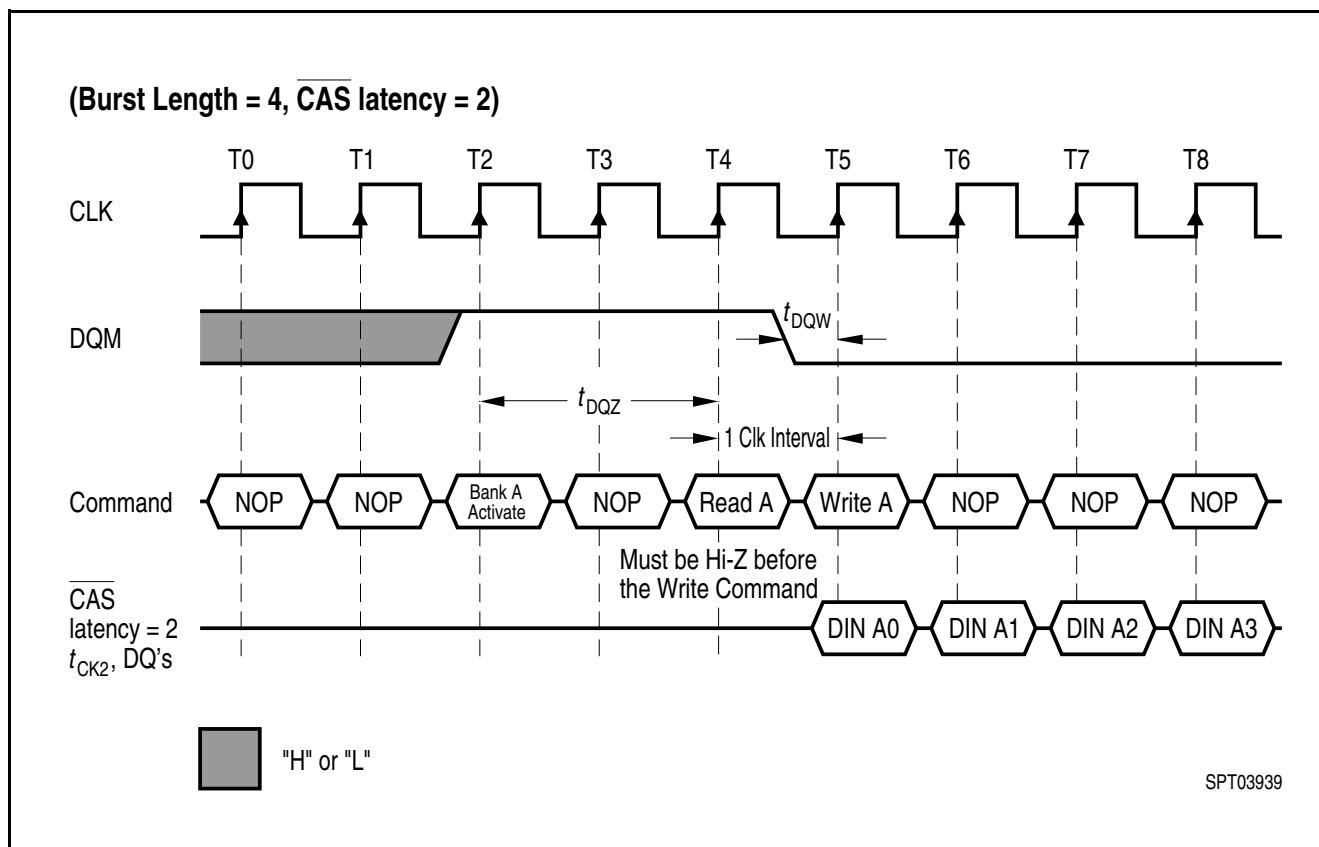

Figure 9 Minimum Read to Write Interval
- **Figure 9** Minimum Read to Write Interval